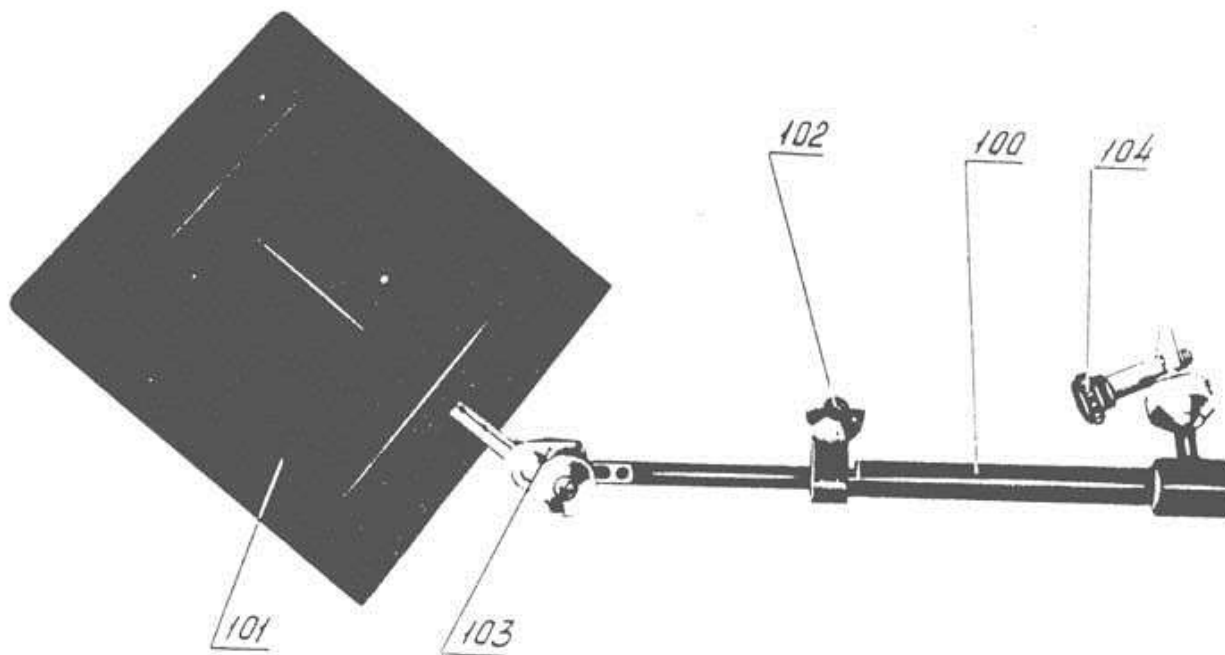

Figure 14
The flag (figure 14) is used for protection of taking lens from lateral light. The flag may work with any lens. It consists of the rod (100), and screen (101).
Mount the flag (figure 14) into its place in the top part of the camera, and fix it with the screw (104).